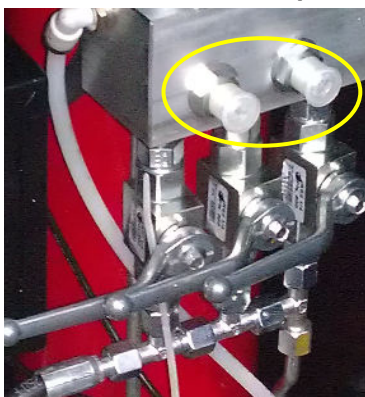

Fig. 5 – Hydraulic Connection
- 13) Connect the hydraulic lines to the block connections inside the control unit, Fig. 5.